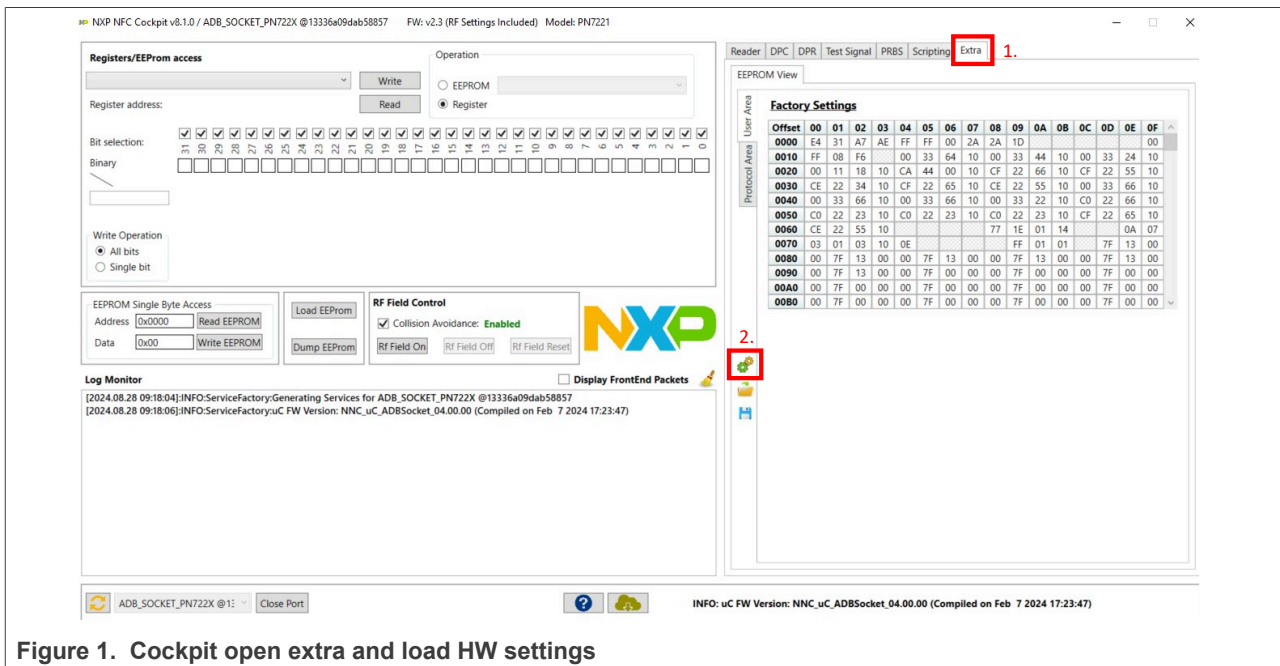

Figure 1. Cockpit open extra and load HW settings
1. Open the NFC Cockpit and click "1." and then "2." in Figure 1.